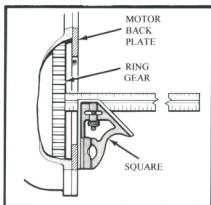
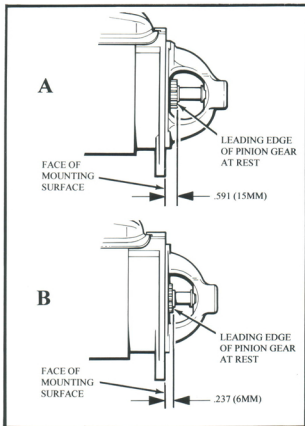
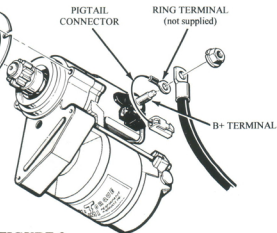

FIGURE 4
FIGURE 1
FIGURE 3
2. Ford uses two different lengths of starter motors. These vary as to how far the starter pinion gear extends past the mounting flange (refer to Figure 1). The pinion gear on cars equipped with an automatic transmission extend past the mounting flange by .591" (15mm) -see Fig1A. The pinion gear on the starter usually used on manually equipped cars extend .237" (6mm) past the mounting flange (Fig1B). If the *Hi-Torque* starter is to be used in place of the shorter starter, then the "spacer ring" supplied with the kit will have to be installed between the mounting flange and the starter (see Fig. 3).
3. Temporarily attach the mounting plate to the engine using the original bolts (Fig 3). NOTE: big block Fords use the 906T mounting flange, which has a threaded hole. At this point DO NOT bolt the starter to the mounting plate. Hold the starter motor temporarily up into position on the mounting plate. While holding the starter motor in place, check for clearance between the starter and the engine block, and between the headers/exhaust system. NOTE: there are eighteen mounting holes located at 20 degree increments. Rotate the starter until you have roughly equal clearance on both sides of the motor. Using a felt tipped marker, mark across the mounting plate and the body of the starter motor. Remove the starter motor and the mounting plate from the engine. Position the mounting plate onto the starter motor. Install the two 5mm allen screws into the pair of holes which allow the closest alignment of the previously made marks. Using a metric allen wrench, temporarily tighten the bolts.
4. End clearance between the ring gear and the pinion gear teeth in the retracted position is critical (Figure 2). On the *Hi-Torque* starter, the pinion gear extends past the mounting plate flange by $\frac{1}{2}$ " in the retracted position. The distance from the motor mount plate to the front edge of the ring gear must be measured (Fig.4). Calculate the clearance by subtracting $\frac{1}{2}$ " from this dimension. If you are using the spacer ring (Fig. 3) in your installation, then subtract an additional .04". The clearance should be between .040" to .100". If the measurement is less than this, you will have to add a circular shim (supplied with the starter) between the starter motor and the mounting plate. Each shim is .074" thick. After determining the proper number of shims, apply **LOCTITE® 262** (or equivalent) to the bolts and tighten them to 95 IN/LBS. We recommend that you use a 4mm or 5mm hex driver with an inch pound torque wrench to do this.